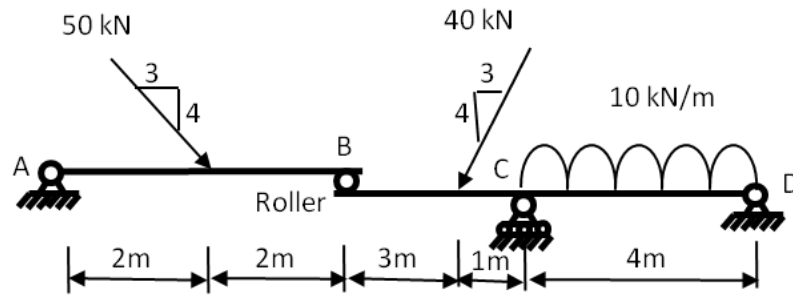

Figure Q1
1. Determine the support reactions for the structure shown in Figure Q1. [20]